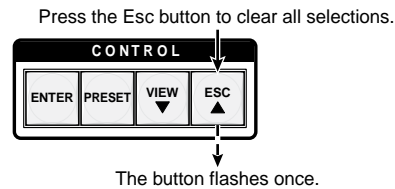

Figure 3-58 — Clear all selections
1. Press and release the Esc button (figure 3-58).